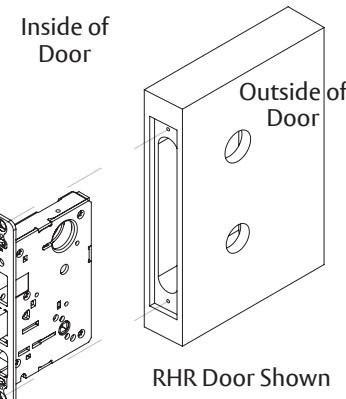

Figure 2
1. Slide lockbody into door. (Figure 2)
2. Slide outside lever assembly through door and lockbody and hold. (Figure 2)